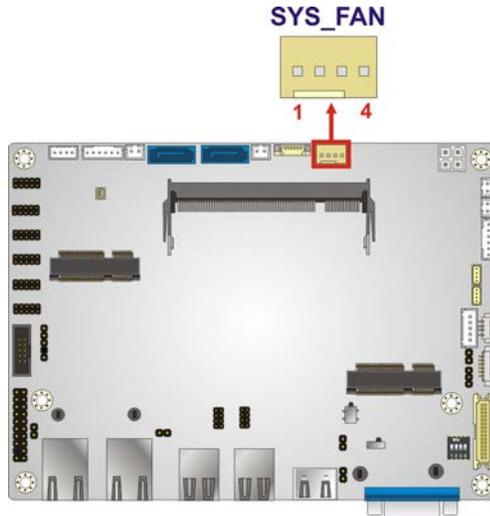

Figure 3-29: System Fan Connector Locations
- CN Location:** See **Figure 3-29**